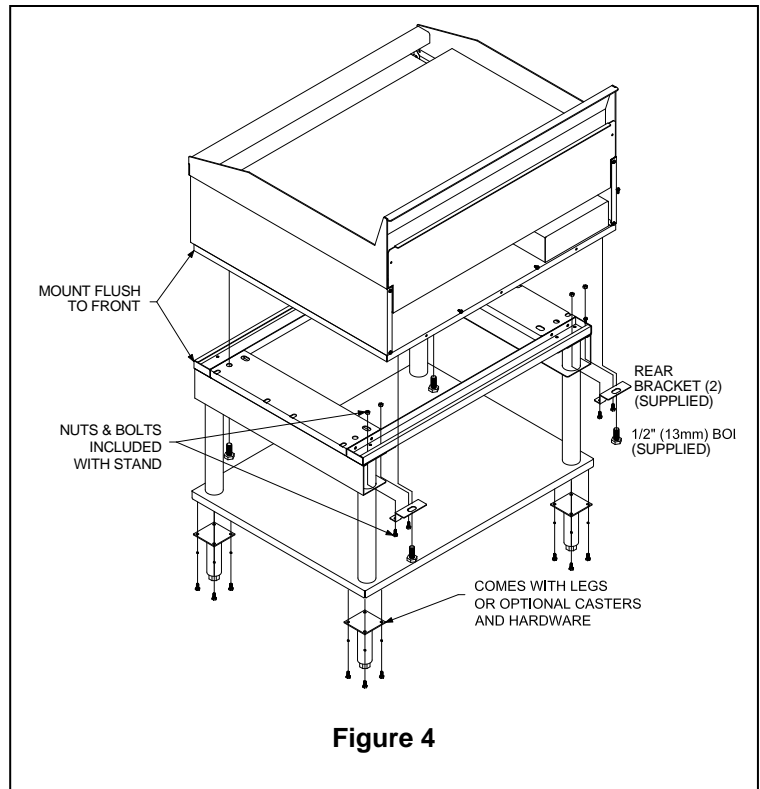

Figure 4
(See Figure 4). To mount the griddle to the stand, locate joining kit supplied with stand. The joining kit should include (2) rear mounting brackets, and (4) 1/2" (13mm) mounting bolts. To mount the griddle to the equipment, perform the steps on the following page: